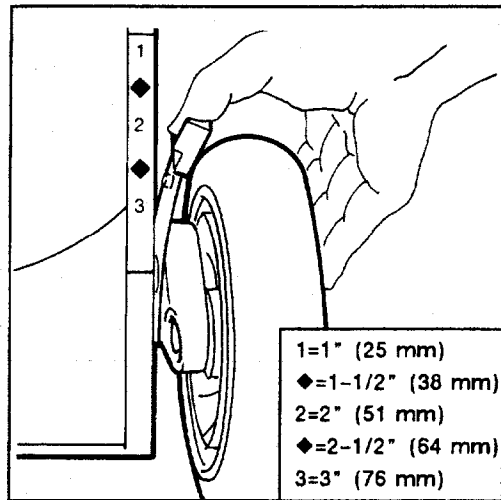

Figure 14
2. For easier adjustment, lift housing up so wheel is off ground. Squeeze adjusting lever toward wheel and move to desired setting (Fig. 14). Assure pin on adjusting lever engages notch in housing. Adjust all wheels to the same setting.